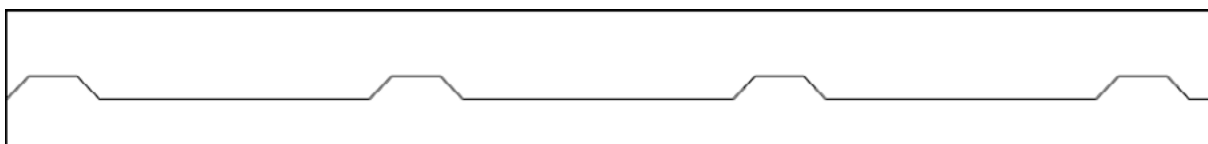

FIGURE 43
- The installation of Galaxy products is suitable for metal roofs with wave rib adjacent spacing not greater than 450mm (Figure 43). If Galaxy product is to be installed on roofs with wave rib spacing dimensions greater than 450mm, a load test should be carried out first and only when the requirements are met.